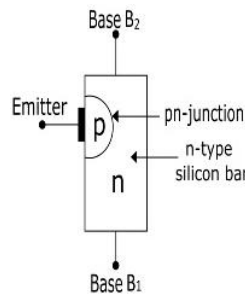

Fig. 4.13 PN-Junction
The UJT is constructed from an n-type silicon semiconductor bar with electrical connections at each end, referred to as the Base terminals (B1 and B2). A pn-junction is formed between a p-type emitter and the n-type silicon bar, located near the Base B2 terminal. This junction is known as the emitter terminal (E). Since the device has three terminals and one pn-junction, for this region this is called as a Unijunction Transistor (UJT) as shown in Figure 4.13 and 4.14.